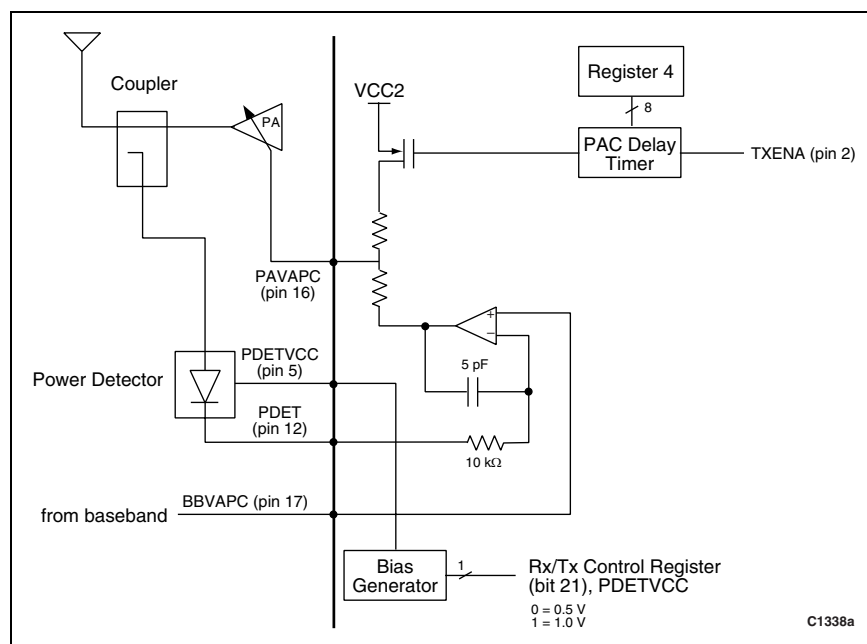

Figure 8. PA Controller Block Diagram
The device contains an error amplifier/integrator to provide transmit burst control for an external power amplifier (PA). As shown in Figure 8, when the device is connected to a PA, an RF detector, and a coupler, a loop is formed that controls the transmit power in a multi-band wireless application. The error amplifier amplifies and integrates the voltage difference between the RF detector output (PDET) and the power control input (BBVAPC). The output of the integrator is fed to an internal gain shaper that drives the gain control input (PAVAPC) of the external RF PA. The device provides a bandgap voltage (PDET VCC) which can be used as the supply voltage for the external peak detector and can source up to 200 μ A.